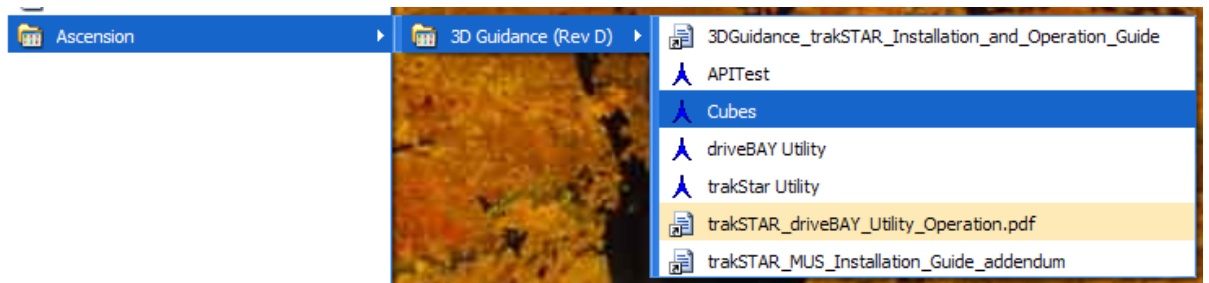

Figure 2-20: Selecting the Cubes program from the Windows Start Menu
1. Start the demo utility by selecting **CUBES** from the Ascension program group in the Windows® Start menu. (Figure 2-20)